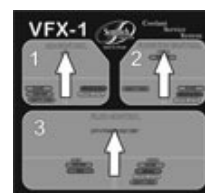

Figure 4
- 11) Return AIR CONTROL valve #1 and FLUID CONTROL valve #3 to **OFF** position. Turn FUNCTION CONTROL valve #2 to **HOLD** position. ( Fig 4)